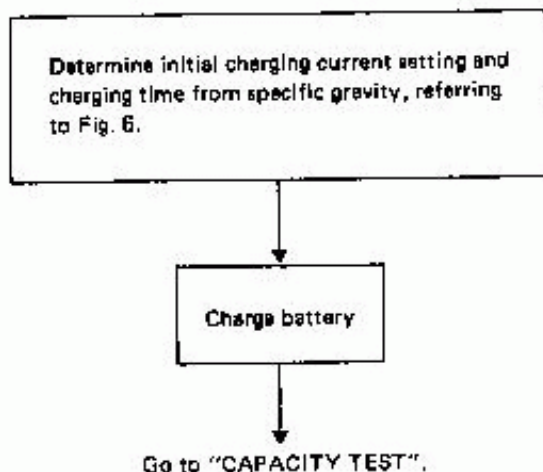

Fig. 6 INITIAL CHARGING CURRENT SETTING AND CHARGING TIME (Quick charge)
- Set initial charging current to value specified in Fig. 6. If charger is not capable of producing specified current value, set its charging current as close to that value as possible.
- Do not exceed the charging time specified in Fig. 6. Because if the battery is charged over the charging time, it can cause deterioration of the battery.